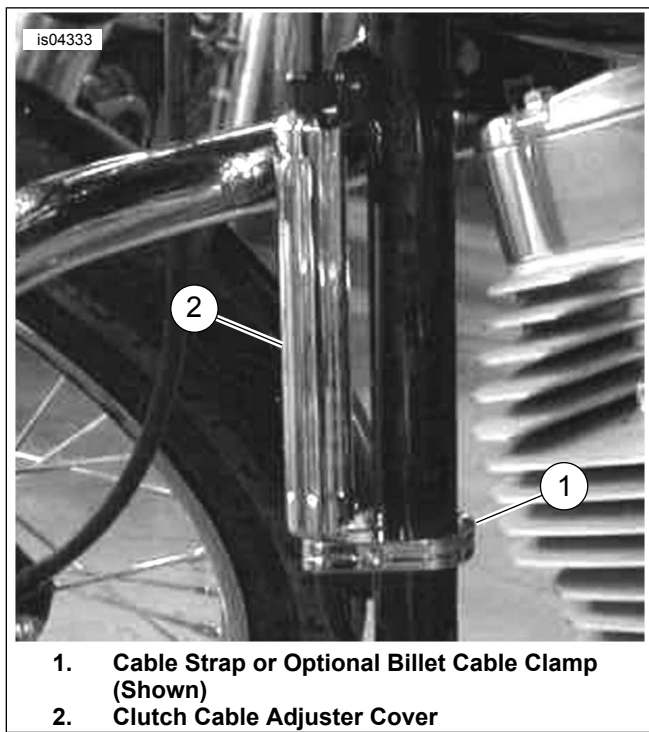

Figure 5. Lower Clamp Position, Softails (Optional Billet Clamp Kit Shown)
- Use the cable strap (5) from the kit to fasten the cable about 2 inches (51 mm) below the clutch cable adjuster cover, OR
- Install a Billet Chrome Cable Clamp Kit, part number 91147-02 (available separately), directly beneath the cover (see Figure 5) per the instructions in that kit. Proceed to Step 8.